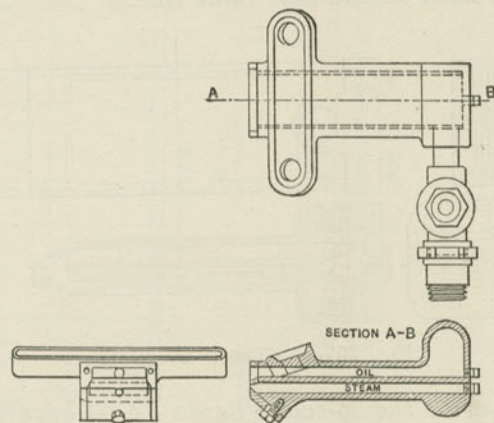

Fig. 298a. Baldwin Oil Burner.
A. Referring to Fig. 298a: This is of rectangular cross section, having a channel above for oil and one below for steam, both supply valves being operated from the cab.